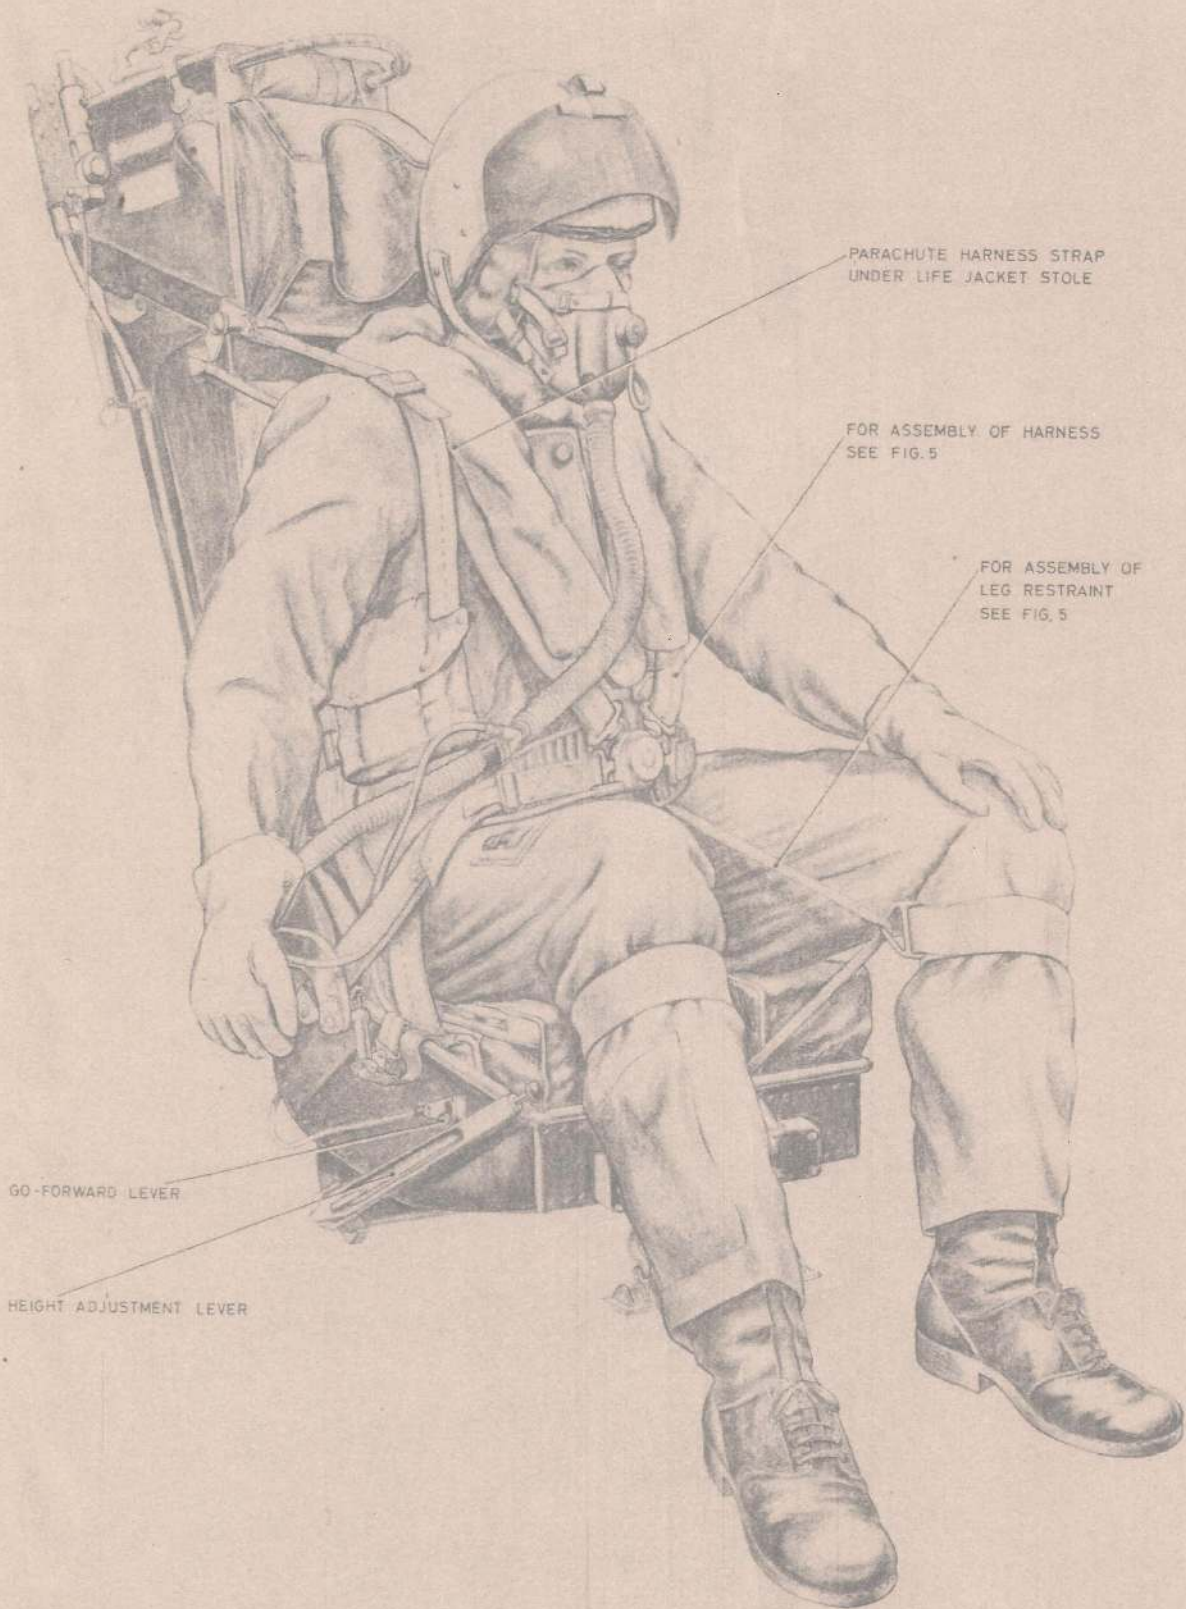

Fig. 3 The ejection seat occupied (1)
15. The strapping-in procedure is as follows; refer to fig. 3, 4 and 5 for detail as necessary:—